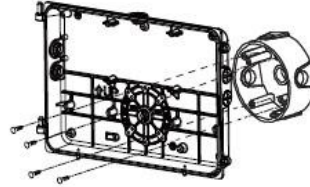

Fig7
**Method B:** Attach the rear housing using 4 screws (not provided) to the existing junction box on the wall (Fig7).